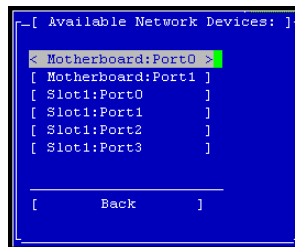

Figure 230. Available Network Devices Window
1. On the Configuration Interface main menu, tab to Network TCP Status and press Enter. The Available Network Devices window opens, shown in Figure 230.